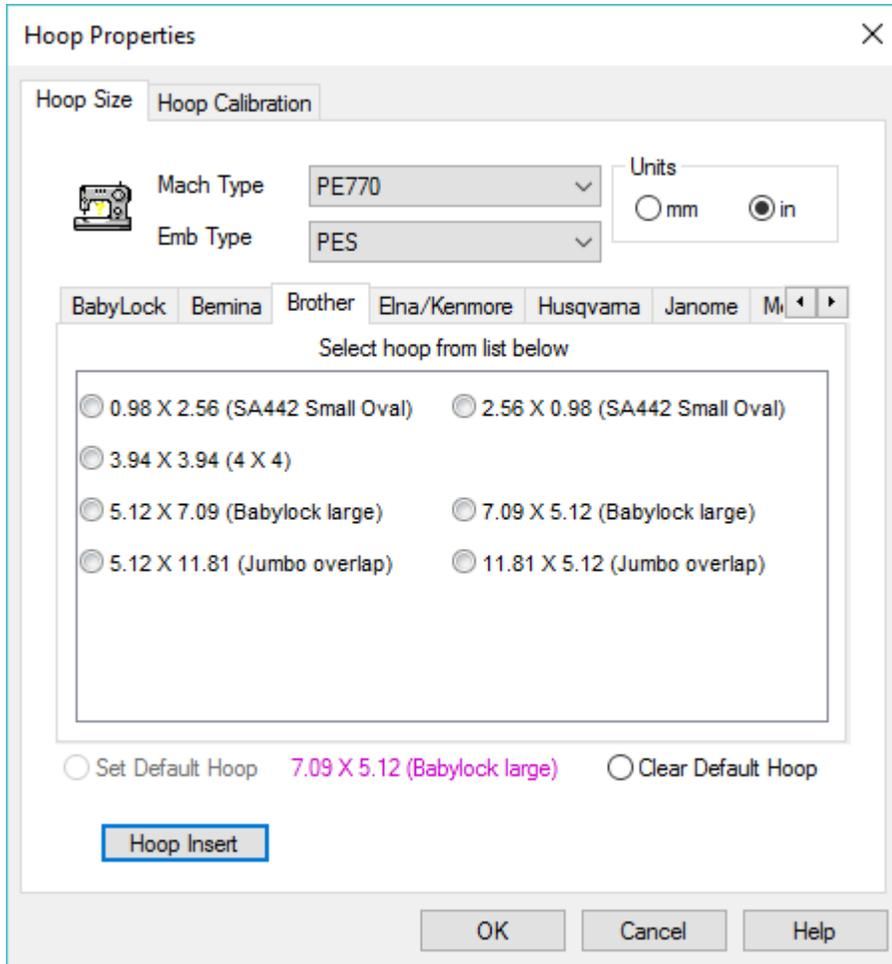

Figure 1 Dialog displayed by clicking the "Hoop Size" tab
- The tabs allow you to display the available hoop sizes for various embroidery machine manufacturers. In Fig. 1, the manufacturer "Brother" has been selected by clicking on that tab. Use the horizontal scroll buttons (to the right of the tabs) to find a manufacturer if it is not displayed. The list of hoops for that manufacturer *and* the selected machine type will be displayed in the list box. In Fig.1, the selected machine type is the Brother "PE770". You can use the optional vertical scrollbar (to the right of the hoop list) to display the complete list of hoop sizes. Select the desired hoop size by clicking on the radio button beside the hoop description. Your selection will be highlighted and can be altered at any time before you close this dialog by clicking on a different hoop size. Once you have selected the desired hoop size, you may also set this to be the default for your machine by checking the *Set Default Hoop* button. This is the hoop that patterns without internal hoop information will open into, or **all** patterns if the File Options Use Default Machine Hoop button is also checked. The embroidery file types supported by this manufacturer can be seen by scrolling